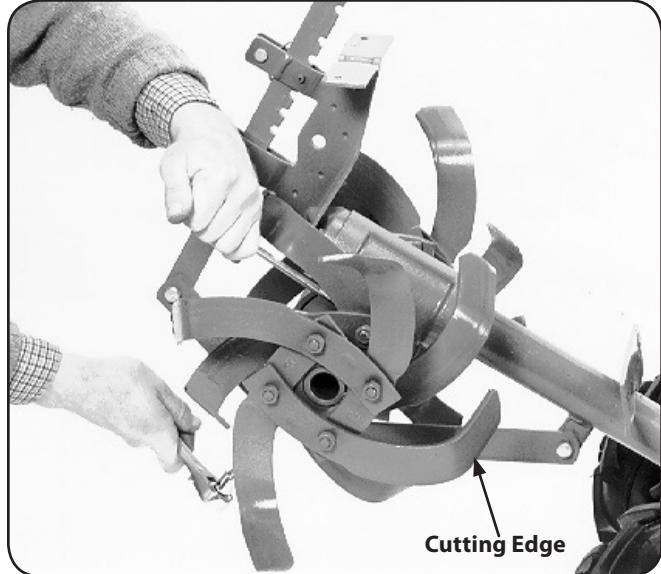

**Figure 7-9**
1. Remove the two screws and nuts that attach a single tine to the tine holder. If needed, use penetrating oil to help free the nuts. See Figure 7-9.